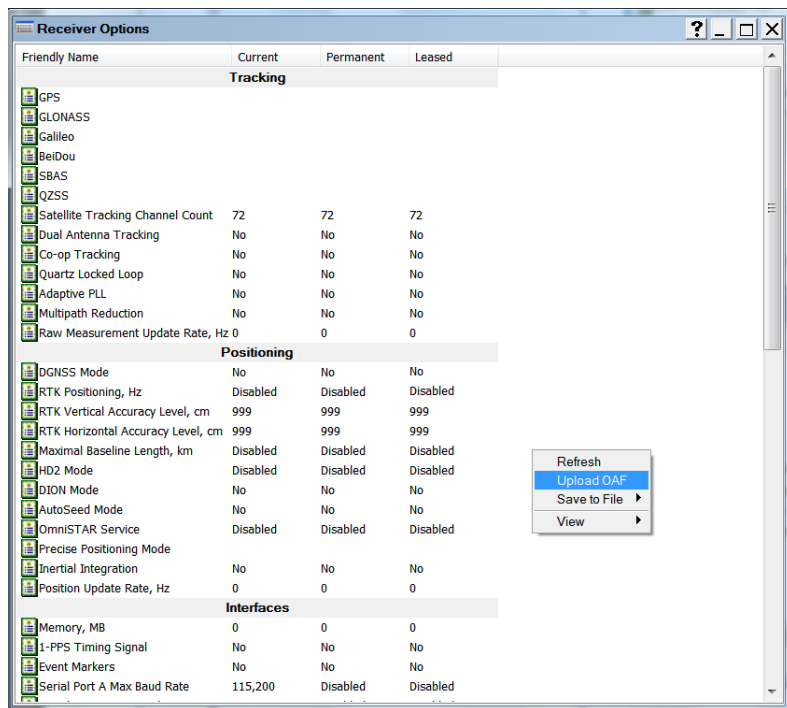

Figure 21: Right-click and Select Upload OAF
2. Right-click on the **Receiver Options** window, and select **Upload OAF** (see Figure 21).